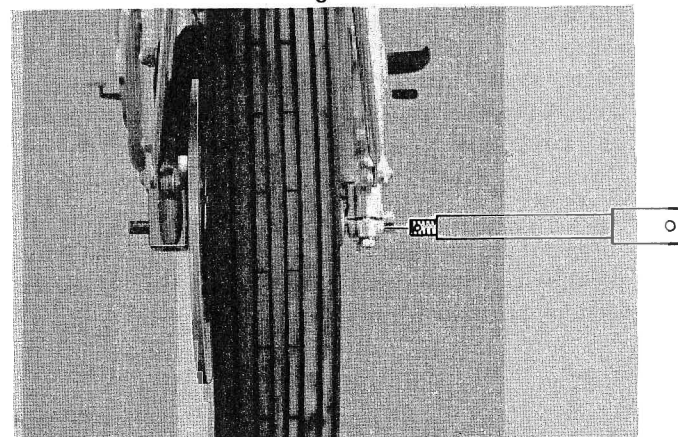

Fig. 14
10. Install the front wheel in the front forks. (Fig. 14)